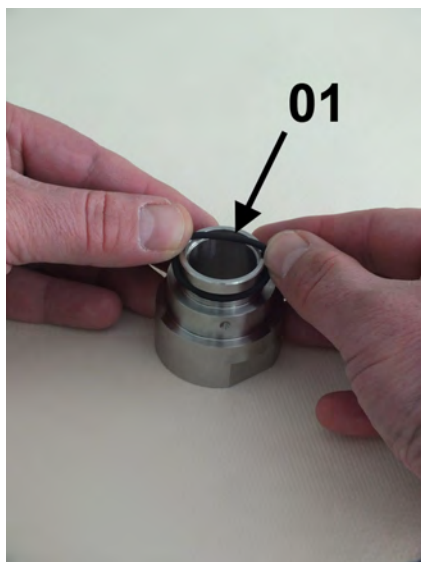
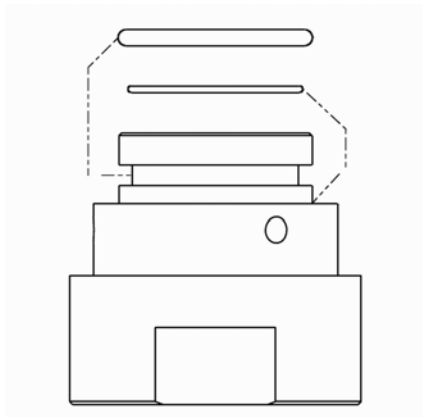

Fig. 40: O-ring (seal)
Fig. 42: Position of O-rings
1. ➤ Carefully install the O-ring (seal) onto the process connection (Fig. 40/01), so that it rests in the upper O-ring groove of the process connection (Fig. 42/01). When doing so, be careful not to overstretch the O-ring.
2. ➤ Carefully install the O-ring (Glass buffer) onto the process connection (Fig. 41/01), so that it is properly seated on the lower portion of the process connection (Fig. 42/02). When doing so, be careful not to overstretch the O-ring.